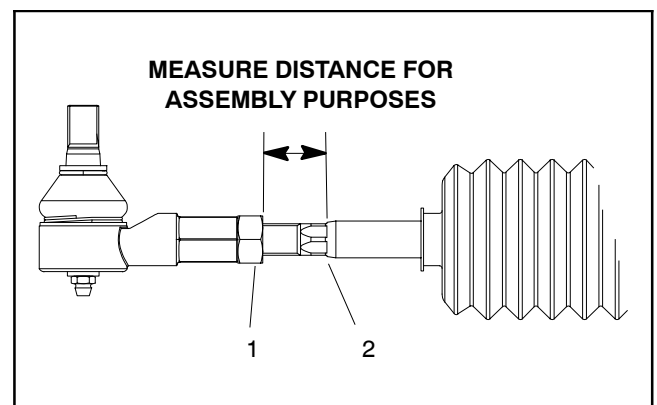

Figure 29
1. For assembly purposes, measure the distance from shoulder on the tie rod track to the location of the tie rod end (Fig. 29). This will help to adjust front wheel toe-in during assembly of steering rack.